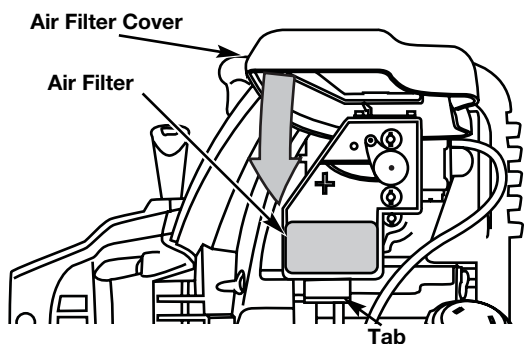

Fig. 50
8. Swing the cover down until the tab on the air filter backplate snaps into place in the slot on the air filter cover (Fig. 50).